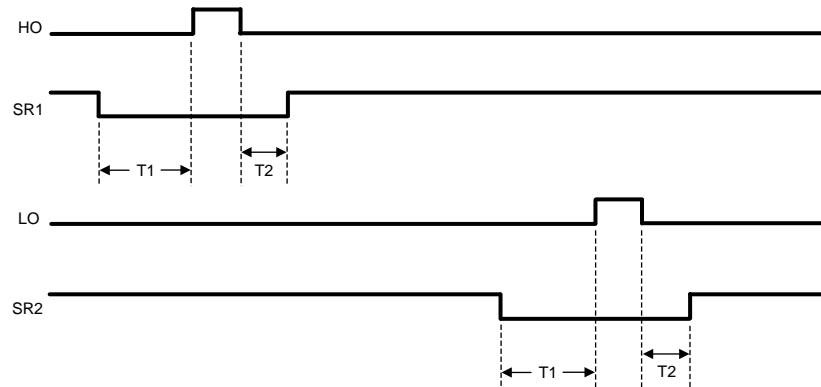

Figure 15. HO, LO, SR1 and SR2 Timing Diagram
Synchronous rectification (SR) of the transformer secondary provides higher efficiency, especially for low output voltage converters. The reduction of rectifier forward voltage drop (0.5V - 1.5V) to 10mV - 200mV V_{DS} voltage for a MOSFET significantly reduces rectification losses. In a typical application, the transformer secondary winding is center tapped, with the output power inductor in series with the center tap. The SR MOSFETs provide the ground path for the energized secondary winding and the inductor current. Figure 15 shows that the SR2 MOSFET is conducting while HO enables power transfer from the primary. The SR1 MOSFET must be disabled during this period since the secondary winding connected to the SR1 MOSFET drain is twice the voltage of the center tap. At the conclusion of the HO pulse, the inductor current continues to flow through the SR1 MOSFET body diode. Since the body diode causes more loss than the SR MOSFET, efficiency can be improved by minimizing the T2 period while maintaining sufficient timing margin over all conditions (component tolerances, etc.) to prevent shoot-through current. When LO enables power transfer from the primary, the SR1 MOSFET is enabled and the SR2 MOSFET is off.
The timing of SR1 and SR2 with respect to HO and LO is shown in Figure 15. SR1 is configured out of phase with HO and SR2 is configured out of phase with LO. The deadtime between transitions is programmable by a resistor connected from the DLY pin to the AGND pin. Typically, R_{DLY} is set in the range of 10kΩ to 100kΩ. The deadtime periods can be calculated using the following formulae:
The R_{DLY} resistor programs the delays between the SR1 and SR2 signals and the HO and LO driver outputs. Figure 15 shows the relationship between these outputs. The DLY pin is nominally set at 2.5V and the current is sensed through R_{DLY} to ground. This current is used to adjust the amount of deadtime before the HO and LO pulse (T1) and after the HO and LO pulse (T2). Typically R_{DLY} is in the range of 10k Ω to 100k Ω . The deadtime periods can be calculated using the following formulae: